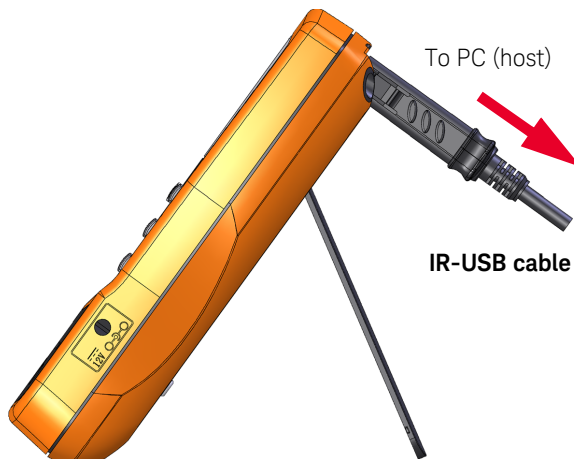

Figure 4 Cable connection for remote communication
- 4 Connect the LCR meter to your PC via the U5481A IR-USB cable (Figure 4) and turn on the LCR meter.